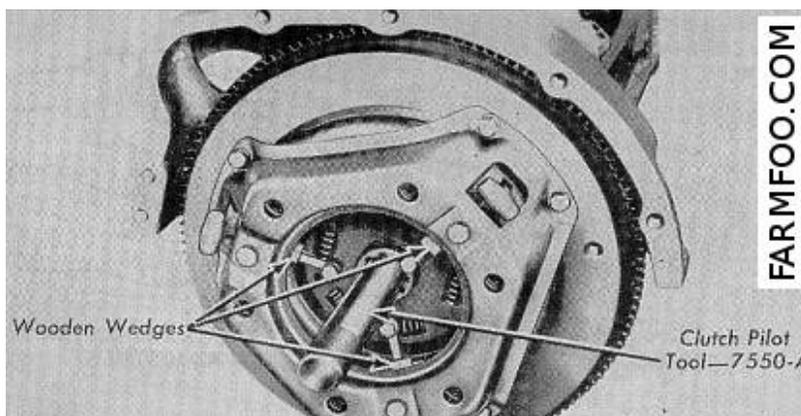

Fig. F051 - Using wooden wedges and dummy shaft to facilitate R&R of clutch. Clutch installation on models 2N-8N-9N.
64A. With clutch assembly accessible, mark clutch cover and flywheel to assure correct alignment when reinstalling. Force clutch release levers inward and insert wooden wedges between levers and cover as shown in Fig. F051. Unscrew cap screws holding clutch assembly to flywheel and remove clutch cover and lined disc. A short, dummy clutch shaft or aligning tool is used as shown when reinstalling clutch. Renew release and pilot bearings if necessary. Install thick side of driven disc hub away from flywheel. When clutch cover is overhauled, reset release levers to the dimensions given in the Long clutch table in Standard Units manual.
66. With clutch assembly accessible, mark clutch cover and flywheel to assure correct balance when reinstalling. Force clutch release levers inward and insert wooden wedges between levers and cover as shown in Fig. F051. Unscrew cap screws holding clutch to flywheel and remove clutch cover and lined plate. Renew release and pilot bearings if necessary. Before reinstalling clutch to flywheel lubricate pilot